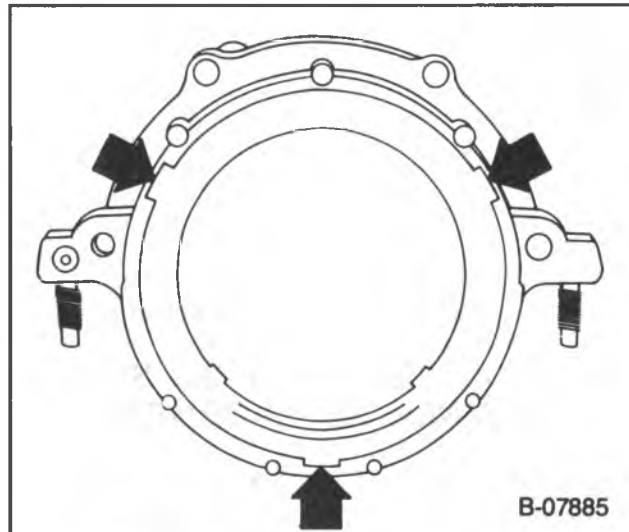

Figure 20 — Seal Removal Notches
Remove or Disconnect (Figure 20)
3. Rear crankshaft oil seal. Insert a screwdriver into the notches provided in the seal retainer and pry the seal out (figure 20). Take care not to damage the crankshaft seal surface.
Remove or Disconnect (Figures 20 and 22)
4. Screws (80) and nuts (81).
5. Seal retainer (82).
6. Gasket (84).
7. Rear crankshaft oil seal. Insert a screwdriver into the notches provided in the seal retainer and pry the seal out (figure 20).